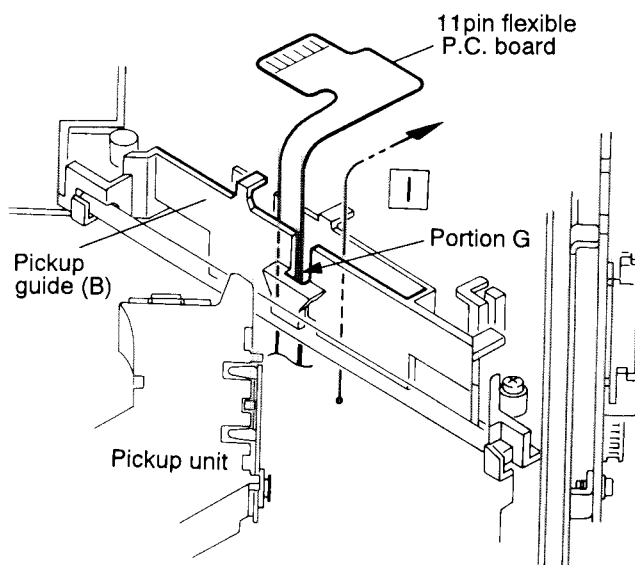

Fig. 4-24 (Back of CD mechanism)
1. In advance, pass the 11 pin flexible P.C. board toward the lower side of the pickup guide (B) (See Figs. 4-24 and 4-25).
● Setting of flexible P.C. board (11 and 4 pins) (See Figs. 4-24 ~ 4-31)
1. After turning the CD mechanism over, the 11 pin flexible P.C. board which has been passed in advance should be inserted to the hole at the portion G on the pickup guide (Step 1) (See Fig. 4-24).
2. After passing the 11 pin flexible P.C. board down to the pawl at the portion H on the pickup guide as shown in Figs. 4-24 ~ 4-26, set the flexible P.C. board according to the order from Step 2 → Step 3 → Step 4.